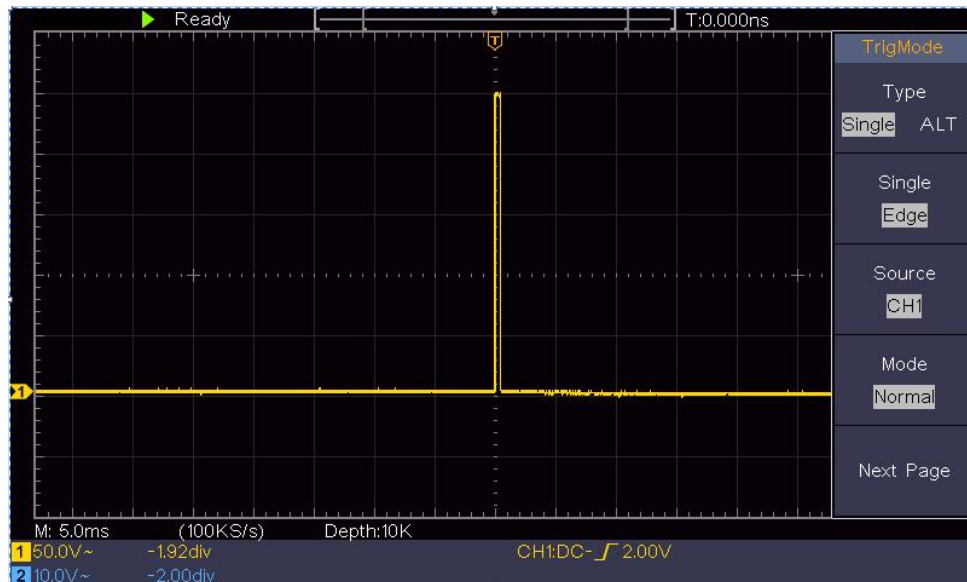

Figure 6- 3 Capturing a Single Signal
- (2) Adjust the **Vertical Scale** and **Horizontal Scale** knobs to set up a proper vertical and horizontal ranges for the signal to be observed.
- (3) Push the **Acquire** button to display the right menu.
- (4) In the right menu, select **Acqu Mode** as **Peak Detect**.
- (5) Push the **Trigger Menu** button to display the right menu.
- (6) In the right menu, select **Type** as **Single**.
- (7) In the right menu, select **Single** as **Edge**.
- (8) In the right menu, select **Source** as **CH1**.
- (9) In the right menu, press **Next Page**, select **Coupling** as **DC**.
- (10) In the right menu, select **Slope** as  (rising).
- (11) Turn the **Trigger Level** knob and adjust the trigger level to the roughly 50% of the signal to be measured.
- (12) Check the Trigger State Indicator on the top of the screen, if it is not Ready, push down the **Run/Stop** button and start acquiring, wait for trigger to happen. If a signal reaches to the set trigger level, one sampling will be made and then displayed in the screen. By using this approach, a random pulse can be captured easily. For instance, if we want to find a burst burr of high amplitude, set the trigger level to a slightly higher value of the average signal level, push the **Run/Stop** button and wait a trigger. Once there is a burr occurring, the instrument will trigger automatically and record the waveform during the period around the trigger time. By turning the **Horizontal Position** knob in the horizontal control area in the panel, you can change the horizontal triggering position to obtain the negative delay, making an easy observation of the waveform before the burr occurs (see *Figure 6- 3*).
The signal displayed on the screen containing some noise, by turning on Peak Detect function and changing time base to slow down the incoming signal, any peaks or burr would be detected by the function (see *Figure 6- 4*).